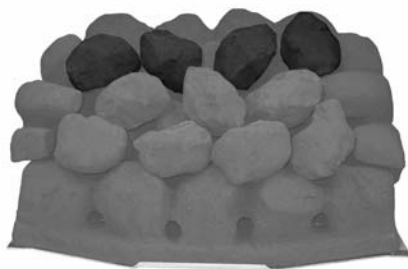

Fig. 17
7. Lay another row of four coals on the next row up, again making sure all the gaps are even (Fig. 17).